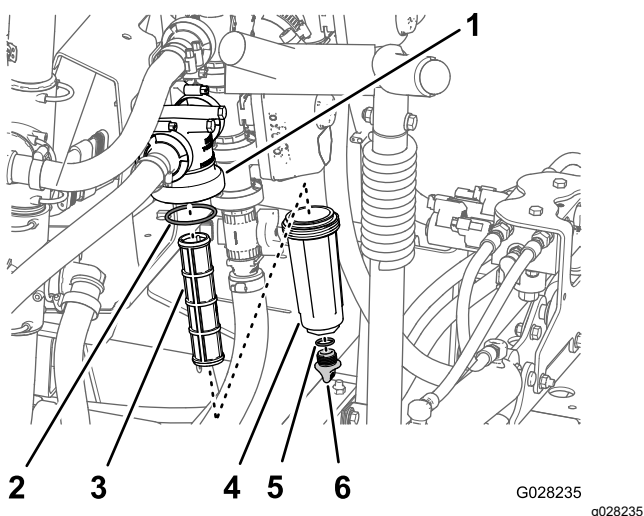

Figure 44
2. Align a drain pan under the pressure filter (Figure 44).
3. Rotate the drain cap counterclockwise and remove it from the bowl of the pressure filter (Figure 44).
4. Rotate the bowl counterclockwise and remove the filter head (Figure 44).
5. Remove the pressure filter element (Figure 44).
7. Check the gasket for the drain plug (located inside the bowl) and the gasket for bowl (located inside the filter head) for damage and wear (Figure 44).
8. Install the pressure filter element into the filter head (Figure 44).
9. Install the bowl onto the filter head, and tighten by hand (Figure 44).
10. Assemble the drain cap onto the fitting at the bottom of the bowl, and tighten the cap by hand (Figure 44).